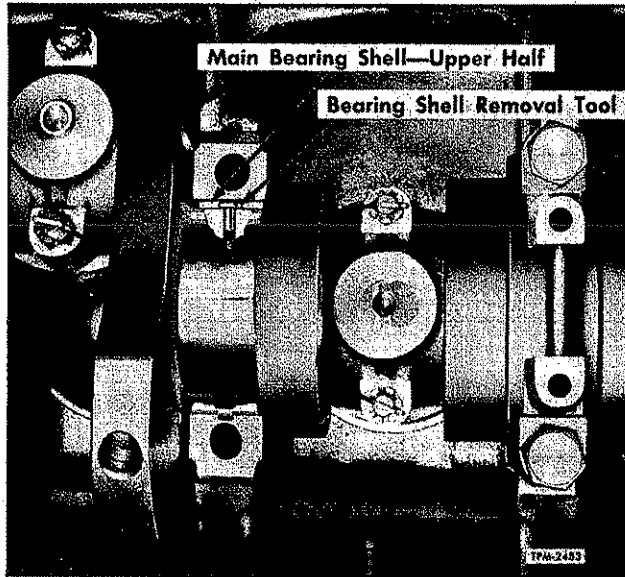

Figure 21—Removing Main Bearing Upper Shell (Except Rear Main) As Shown
When removal of upper half of main bearing shells becomes necessary and the removal of the crankshaft is undesirable, this operation can be performed by using the following procedure and by referring to figure 21. All main bearing journals except the rear are drilled for an oil passage. The procedure, therefore, for removing the upper half of the shells, with crankshaft in place, is somewhat different on the drilled journal than on the rear that is not drilled.
5. The bearing cap having been removed, insert a $\frac{3}{8}$ " x 1" bolt with a $\frac{1}{2}$ " diameter and a $\frac{1}{16}$ " thick head into the crankshaft main bearing oil hole; then revolve shaft in direction necessary to move notch lock from its recess and roll the bearing shell out of position, as shown in figure 21. The head of the bolt should not extend beyond the outside diameter of the shell.